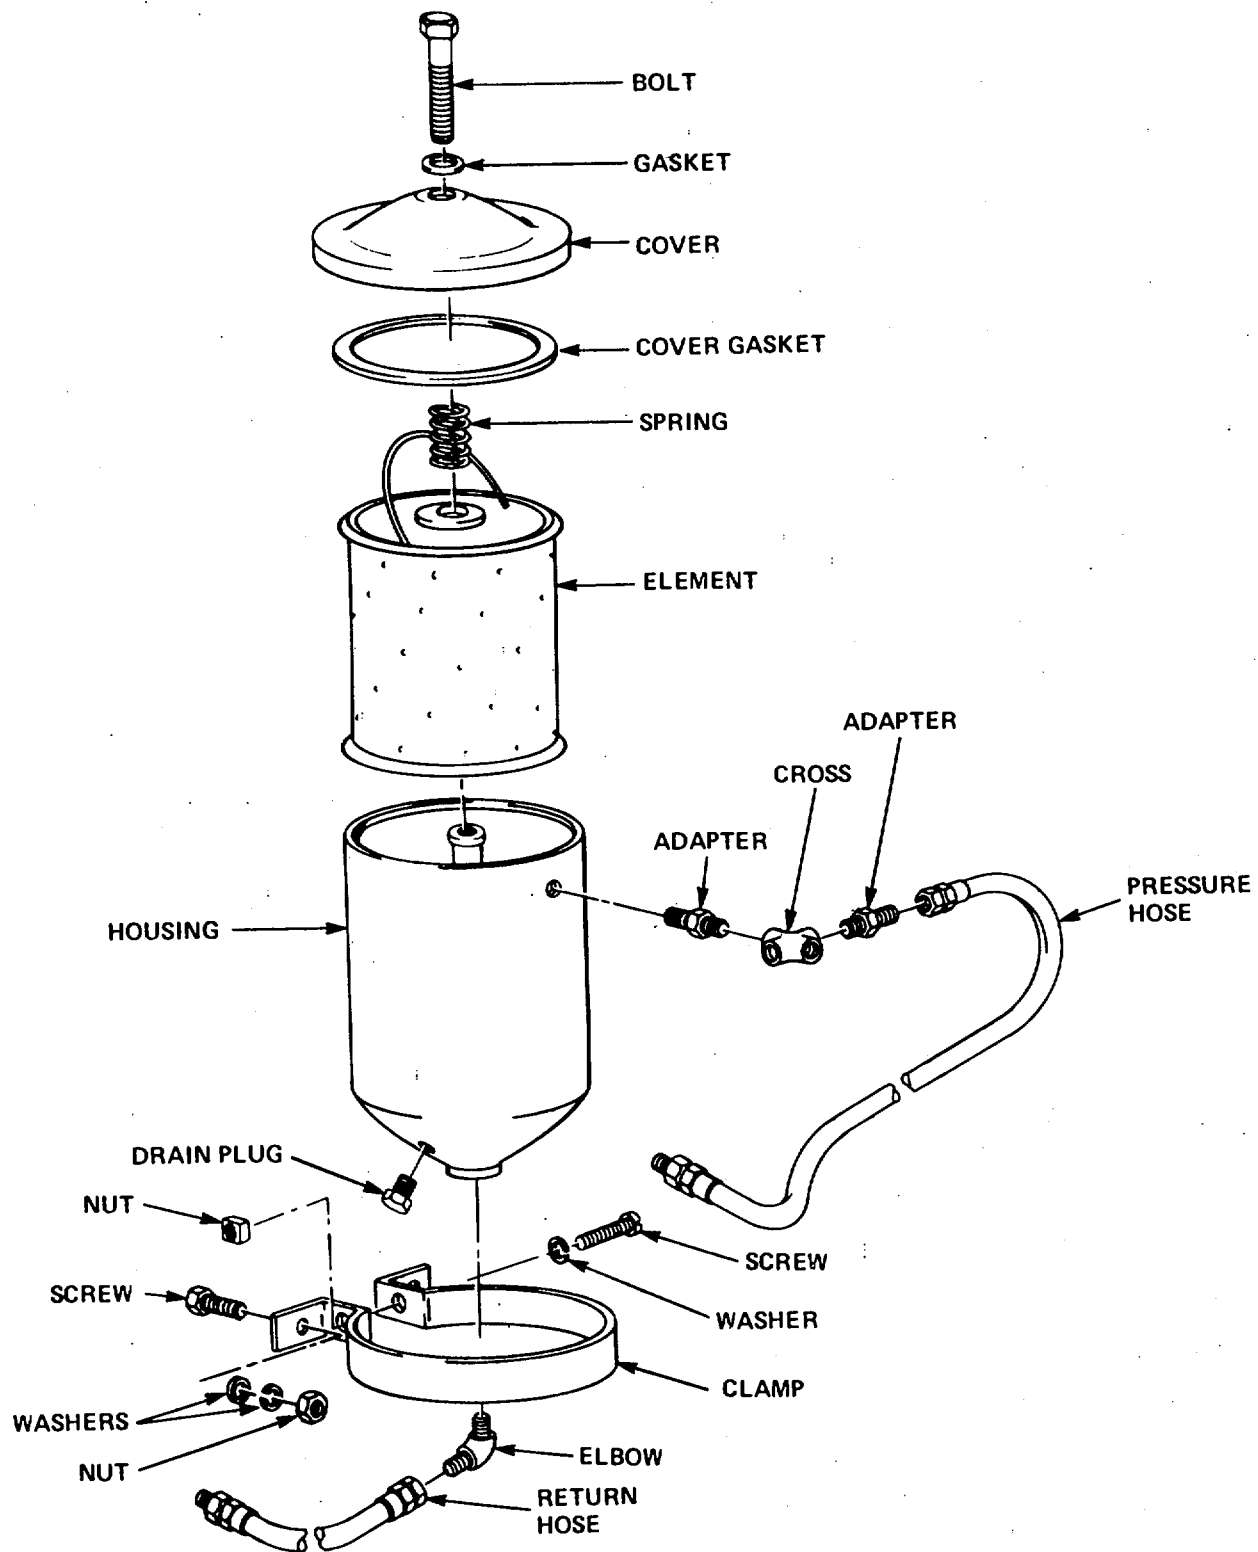

Figure 6-23. Engine Oil Filter, Exploded View
(1) Unscrew bolt in center of oil filter cover (figure 6-23) and remove cover and cover gasket. Discard gasket.
(2) Lift out filter element carefully to avoid getting dirty oil on truck or clothing. Discard element.
(3) Clean residue from inside filter housing, wipe outside clean, install new element and cover gasket, and reinstall cover and cover screw.